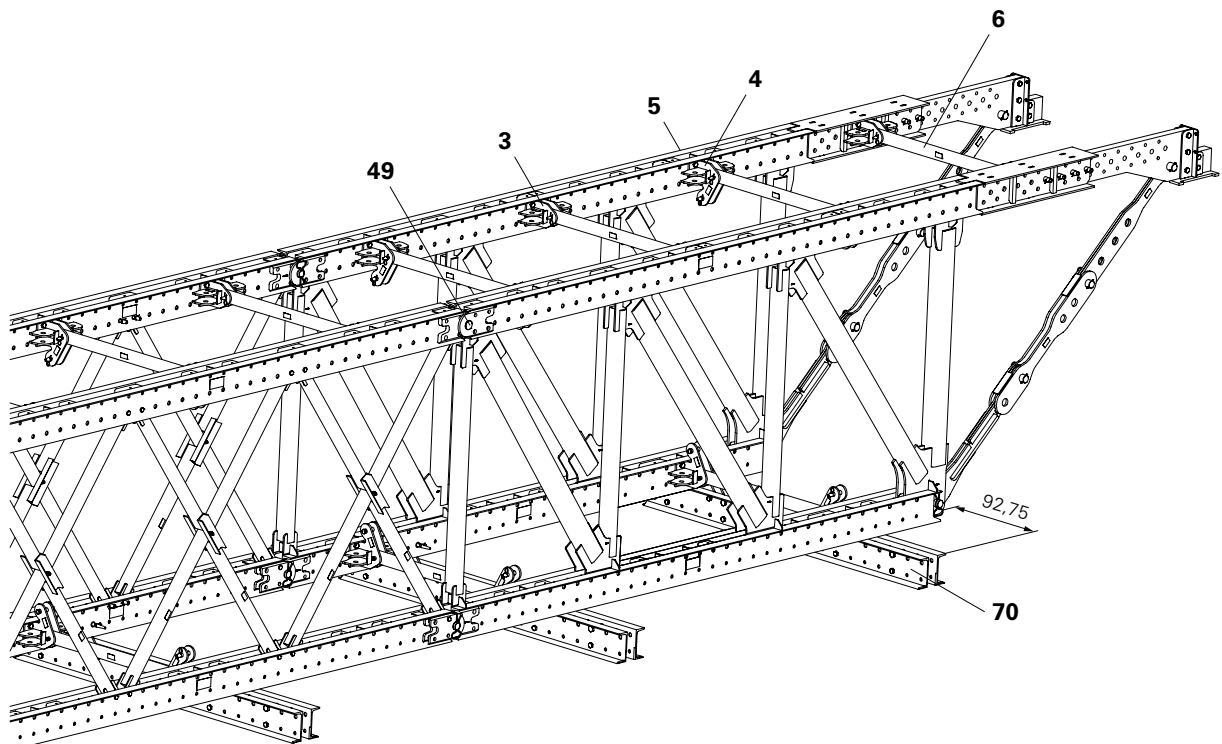

Fig. E2.04
- Position Climbing Rails (70) on the dismantling area. Ensure that each frame element is supported by at least one Climbing Rail. (Fig. E2.04)
- Mount the Cross Connector (71) at a distance of 92.75 cm from the edge of the Climbing Rail.
- At the distance of the Bracing Posts (6), mount additional Cross Connectors on the Climbing Rails.